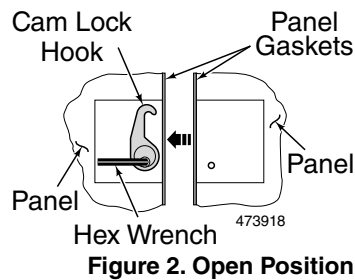

Figure 2. Open Position
1. With the cam locks of the first panel in the fully Open position, place the second panel into position. It should be tight along the mating surface and flush at the edges. See Figure 2.